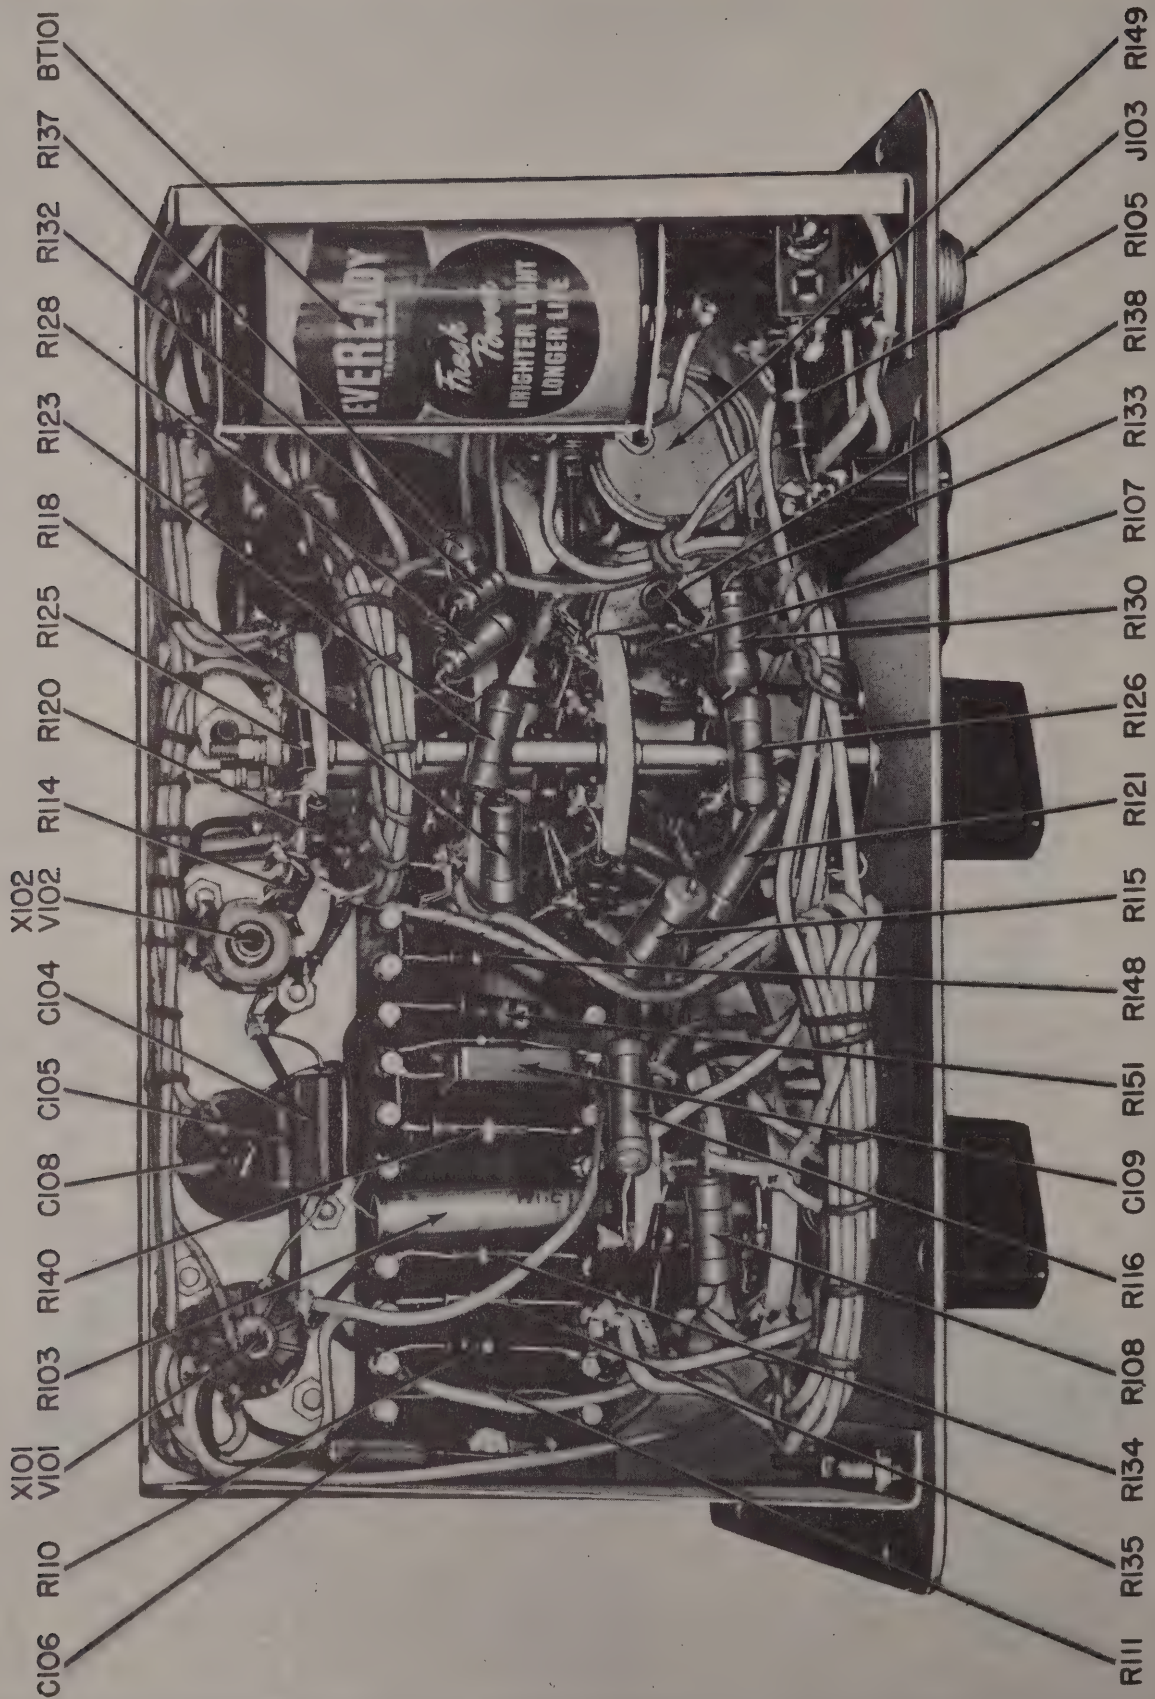

Figure 6-4. Multimeter ME-25A/U, Case Removed, Bottom View
- Remove the case from the chassis in accordance with paragraph 1. (See Figure 6-4)